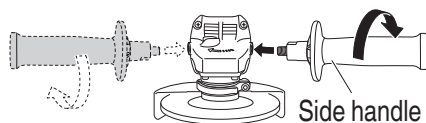

Fig. 11
1. Hold the grinder firmly by its housing and side handle (**Fig. 11**).